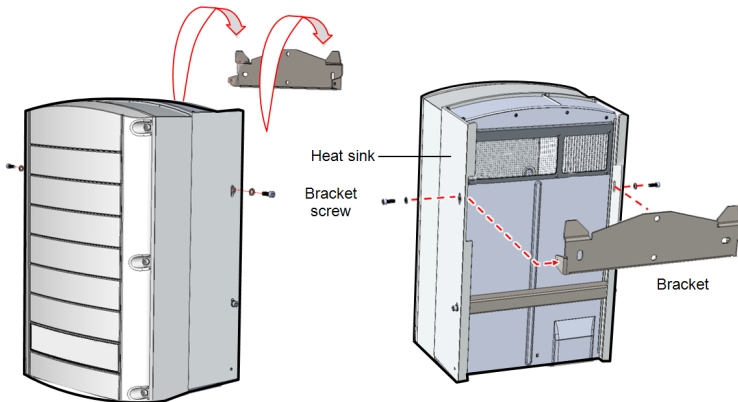

Figure 13: Hanging the Synergy Unit
- For the right or left Synergy Units, insert only one screw through the outer (exposed) side of the unit and into the bracket. Tighten the screws with a torque of 4.0 N*m (see *Figure 13*).